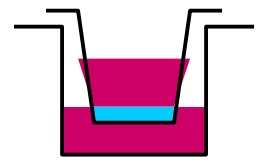

Figure 4
10. When all inserts have been filled, place the plate in an incubator for 30-60 minutes to complete the gelation of the Corning® PuraMatrix™. For higher percentage hydrogels, 30 minutes is sufficient; for 0.15-0.25% hydrogels, a one-hour equilibration is preferable. The media levels may equilibrate to some extent between the insert and the well during this period (**Figure 4**).